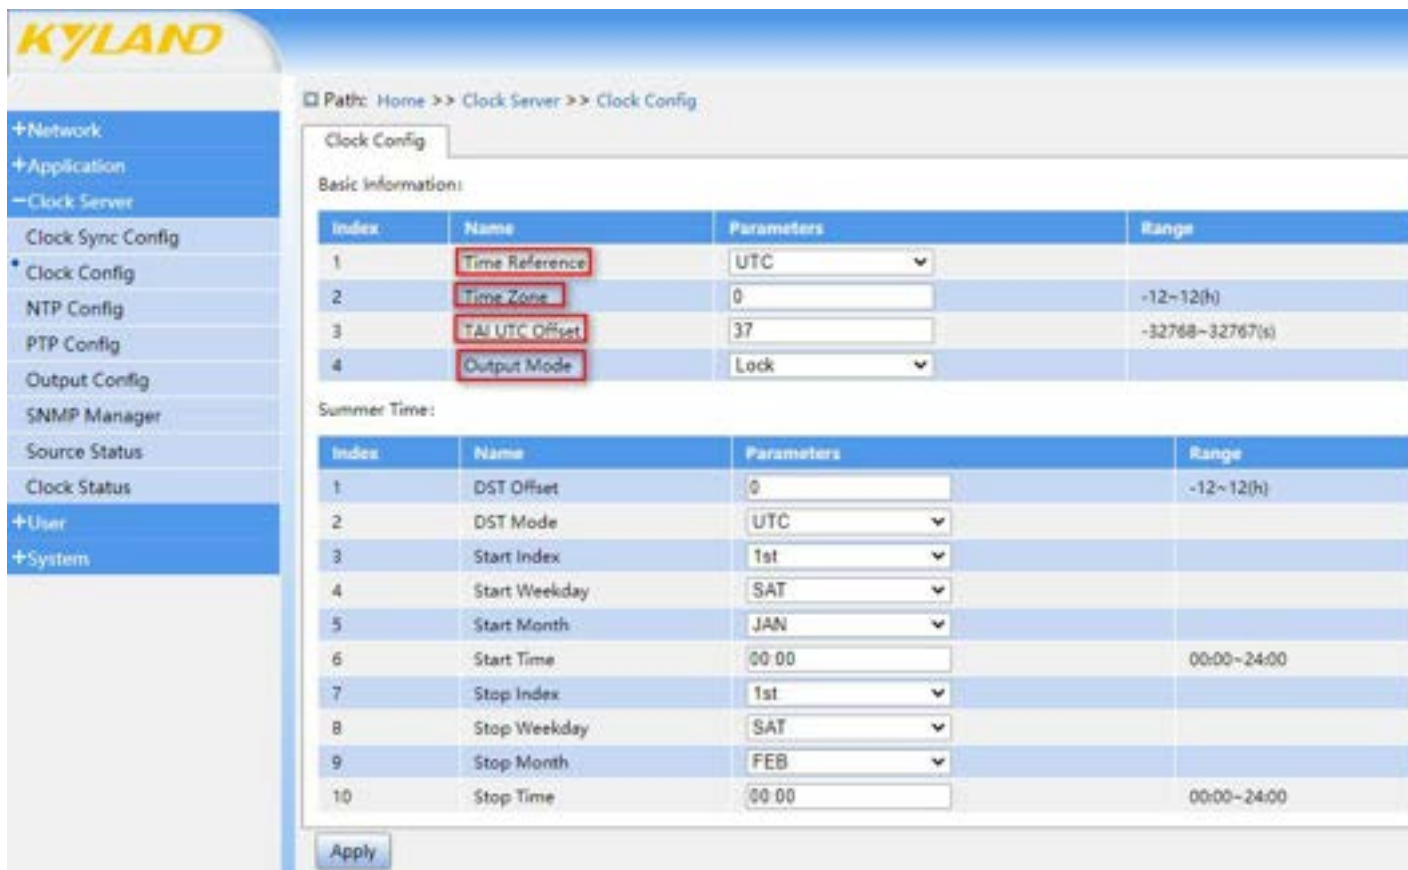

Figure 25 Basic information configuration of clock parameters
1. Configure the basic clock information, as shown in Figure 25;